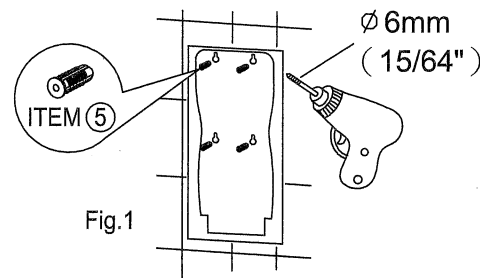

Fig.1
2. Drill four holes $\phi 6\text{mm}$ (15/64"), insert plastic anchors. (Fig. 1)